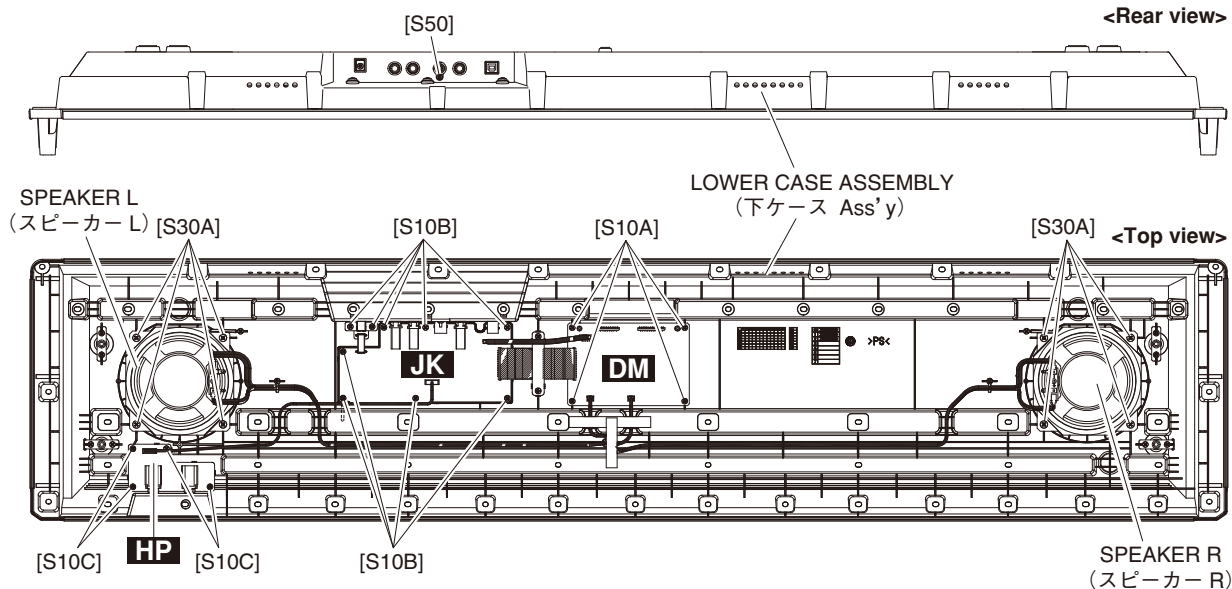

Fig. A-3 (図 A-3)
- A-2-2. Remove the four (4) screws marked [S10A]. The DM circuit board can then be removed. (Fig. A-3)
- A-3-2. Remove the nine (9) screws marked [S10B] and the screw marked [S50]. The JK circuit board (including DC-IN) can then be removed. (Fig. A-3)
- A-4-2. Remove the four (4) screws marked [S10C]. The HP circuit board can then be removed. (Fig. A-3)
- A-5-2. Remove the four (4) screws marked [S30A]. The speaker can then be removed. (Fig. A-3)
(図 A-3)
- A-3-2. [S10B] のネジ 9 本、[S50] のネジ 1 本を外し、JK シート (DC-IN を含む) を外します。(図 A-3)